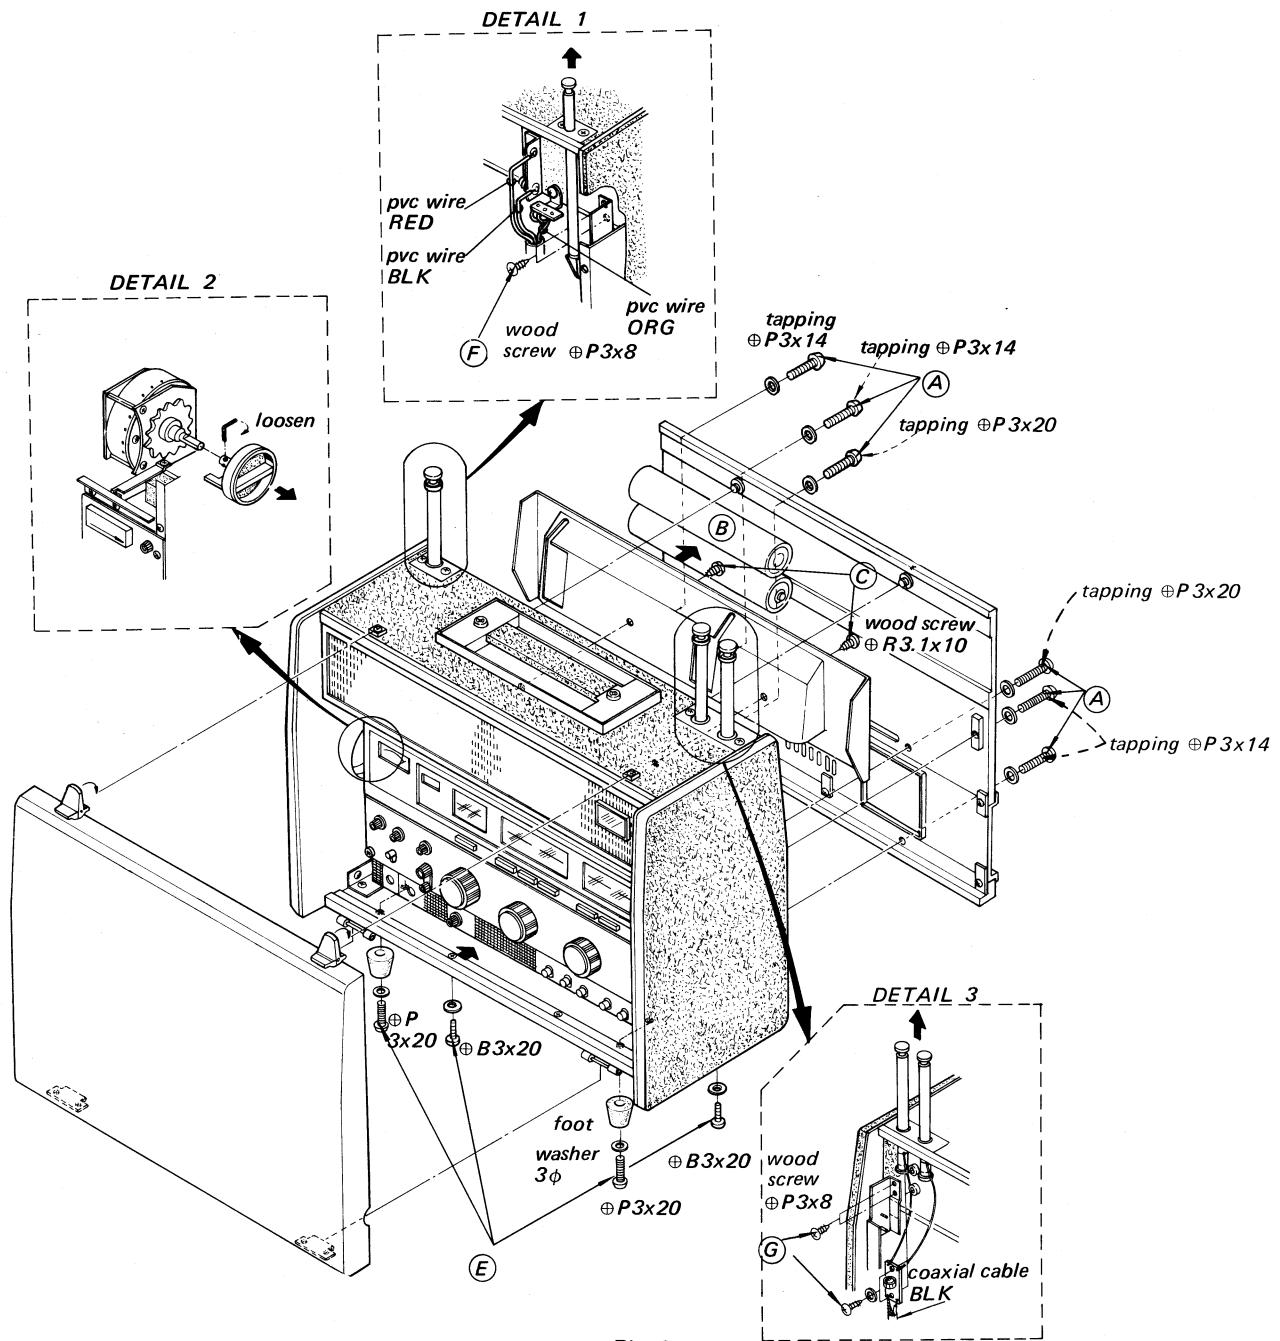

Fig. 2-1.
1. Remove the six screws marked (A) in Fig. 2-1.
2. Remove the rear cover in the direction shown by the arrow (B).
3. Remove the two wood screws marked (C) in Fig. 2-1.
1. Remove the four screws marked (E) in Fig. 2-1.
3. Remove the six screws marked (F) and (G) in details (1) and (3) of Fig. 2-1.
4. Unsolder the coaxial cable and the three lead wires shown in details (1) and (3) of Fig. 2-1.
5. Loosen the three set screws fixing band selector knob shown in detail (2) of Fig. 2-1 and pull off the band selector knob.